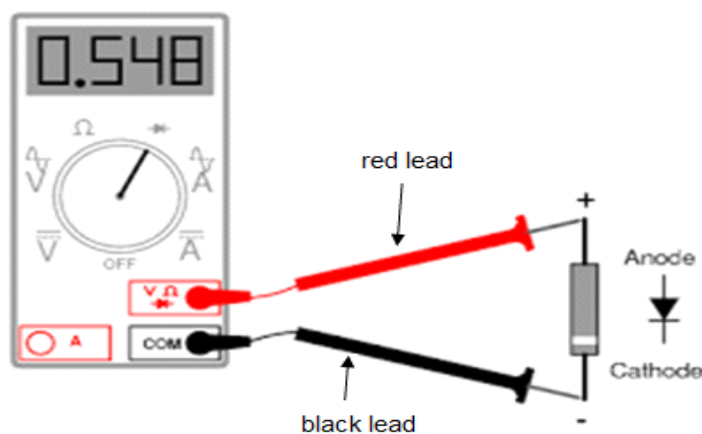

FIGURE 5.4:Diode Testing
5.10 Figure 5.4 shows a diode being tested with a multimeter. Based on the multimeter reading, state with reason whether the diode is reverse bias or forward bias from the reading on the meter. (3)